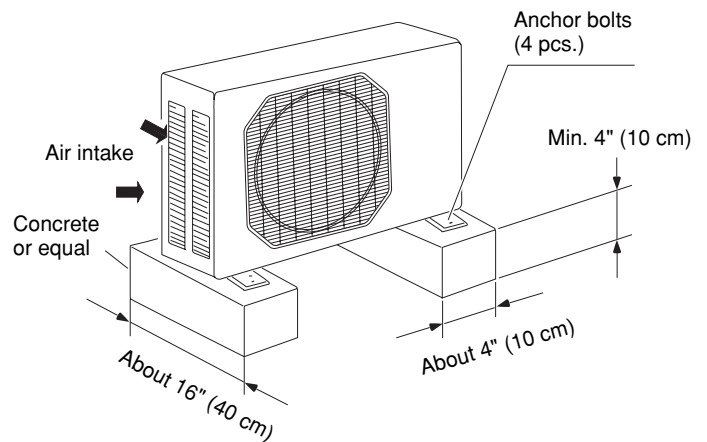

Fig. 5b
- provide a solid base (level concrete pad, concrete block, 4" × 1'4" (10 × 40 cm) beams or equal), a minimum of 4" (10 cm) above ground level to reduce humidity and protect the unit against possible water damage and decreased service life. (Fig. 5b)